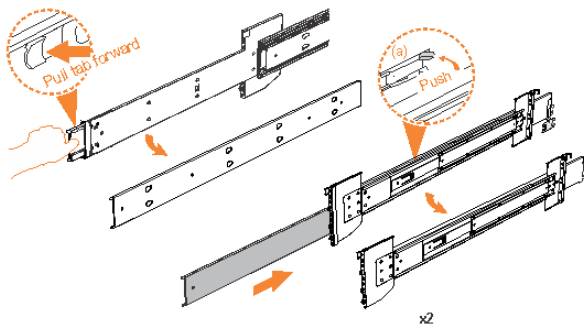

Figure 47. Detaching the inner rail section
3. Remove the inner member of the rail. Push the tab (a) and slide the middle rail member back, as shown in Figure 47 on page 82.